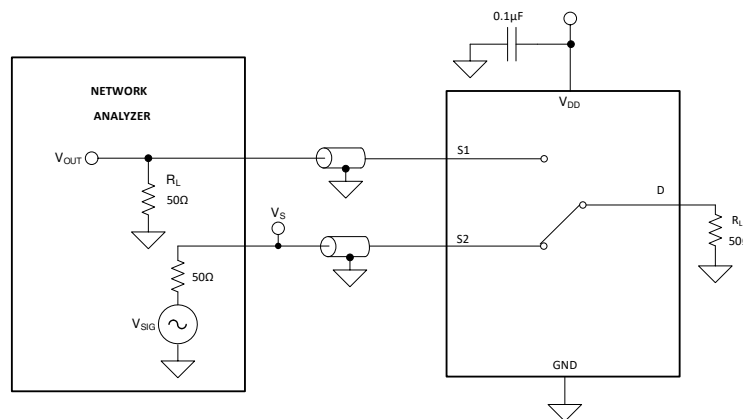

図 6-8. Crosstalk Measurement Setup
Crosstalk is defined as the ratio of the signal at the drain pin (D) of a different channel, when a signal is applied at the source pin (Sx) of an on-channel. 図 6-8 shows the setup used to measure, and the equation used to calculate crosstalk.